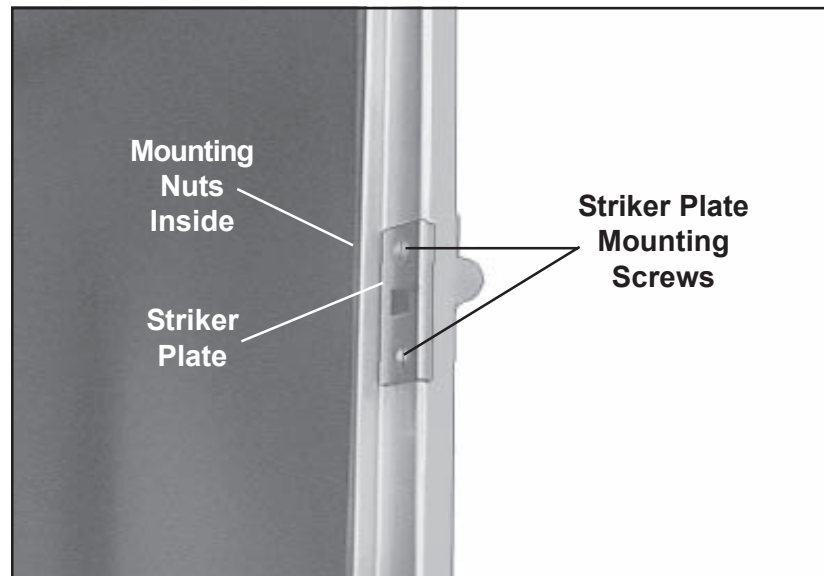

Figure 29. Striker Plate and Mounting Screws/Nuts
2. With a flat blade screwdriver and a 3/8 in. open-end or box-end wrench, remove the two striker plate mounting screws and nuts (Figure 29), and remove the striker plate.